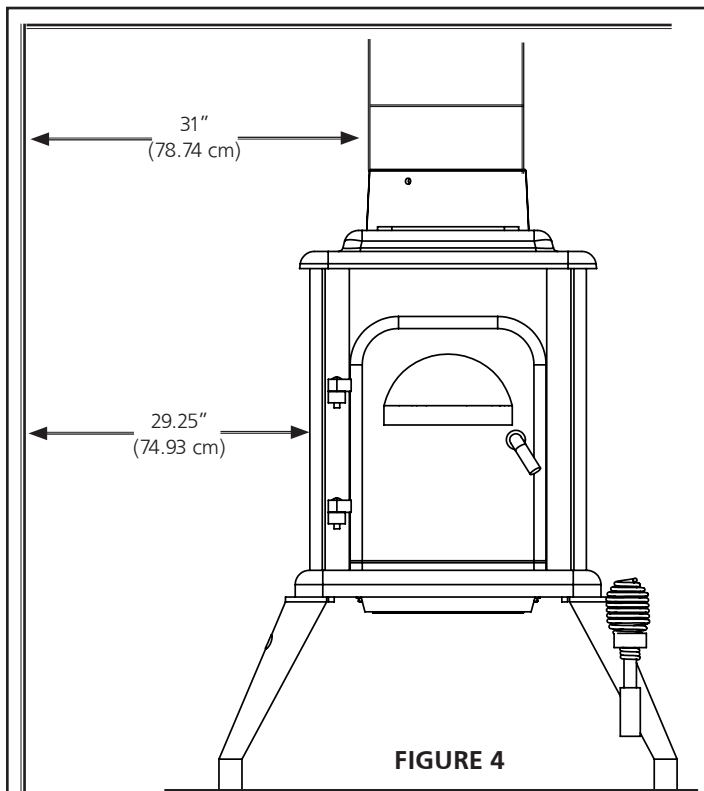

FIGURE 4
(Refer to Figures 4 and 5)
- Refer to Figures 4 through 6 and be sure to have the clearances shown from the heater and the connector pipe to combustible surfaces. If there is a solid brick or stone wall behind the heater, please consult the local building code for specific regulations that may apply in the area. However, if the wall is only faced with brick or stone, consider it a combustible wall. To reduce flue clearances from combustible materials, contact the local safety department.